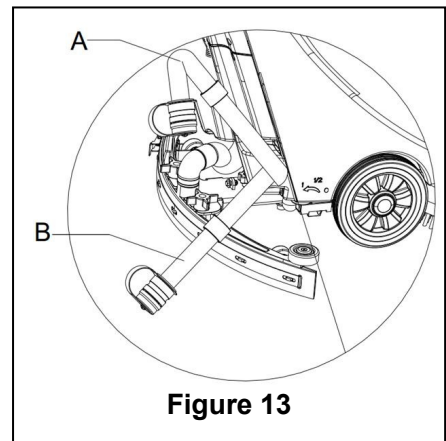

Figure 13
- By using the squeegee handle (14), lift the squeegee.
- Grasp the handlebar (2) and gently incline the machine backward until the guide wheel touches the floor. (For docking of the machine please refer to the procedures in the stopping of the machine section.)
- Take off the draining hose from the fixation clip, bend the top end of draining hose (as shown in A, Figure 13), and then open the cover of draining hose, lower draining hose to a low level or on the ground to drain the water. Alternatively, directly place draining hose to a low position or on the ground to make the water outlet face downward (as show in B, Figure 13), and then twist open the water draining lid to drain off the wastewater in the tank. After draining is completed, use pure water to cleanse the inside of recovery tank.
When draining the wastewater, the vacuum tube for waste must be folded or lowered to a lower position (as shown in Figure 13 A or B), and then open the lid of the vacuum tube for waste to drain the water. Do not make the outlet of the vacuum tube for waste face upward to drain the water vertically. This is to avoid wastewater spilling onto the operator.